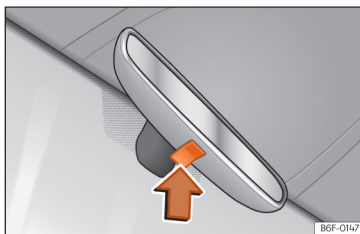

Fig. 108 Manual anti-dazzle function for rear vision mirror
- To darken the rear view mirror, press the mirror button updates »» Fig. 108 (arrow).